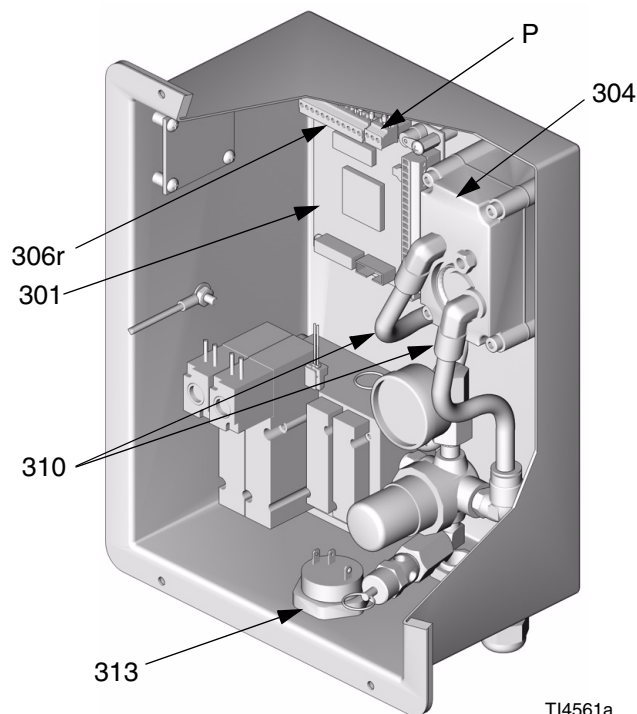

FIG. 5
2. Disconnect power supply wires (P). FIG. 5.
2. Remove two screws (309) from the back of the control box.
3. Disconnect supply and exhaust air lines (310). FIG. 5, page 18.
3. Unscrew alarm (313) and replace. FIG. 5, page 18.